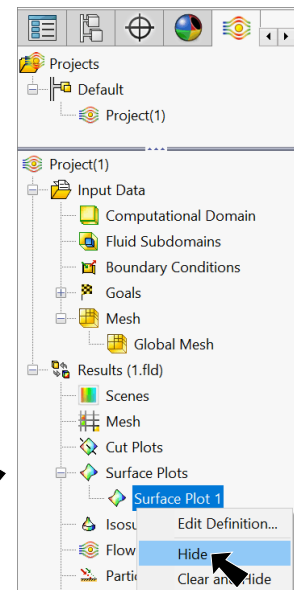

Fig. 20
Step 4. After viewing the Surface Plot, expand **Results** in Flow Simulation tree and expand **Surface Plots**. Right click **Surface Plots 1** and click **Hide**, **Fig. 20**.